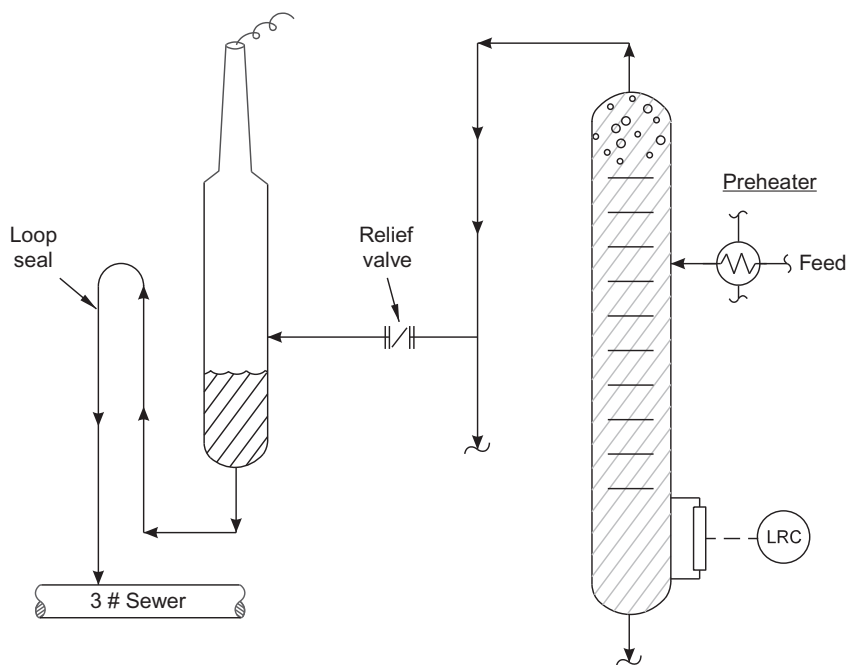

FIG. 46.2 Texas City raffinate splitter—16 killed—Amoco-BP.
- Liquid drained from the atmospheric vent (i.e., blowdown drum—see Fig. 46.2) through a loop seal, which vapor locked).